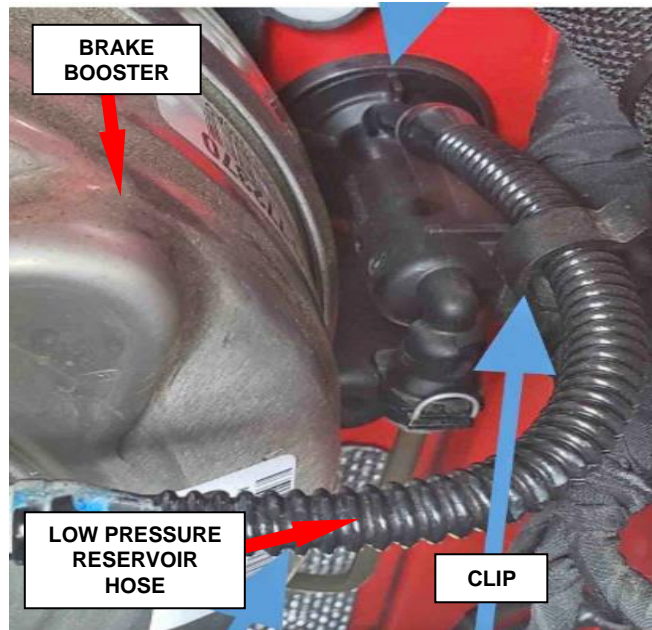

Figure 1 – Low Pressure Reservoir Hose
1. Locate and cut the clip holding the wire harness to the low pressure reservoir hose and **Discard** the clip (Figure 1).
2. Visually inspect the low pressure reservoir hose for any leaks/seepage (See Sample Pictures Below), if leak or seepage, deformation, or wear is found replace the reservoir hose (Figure 1).